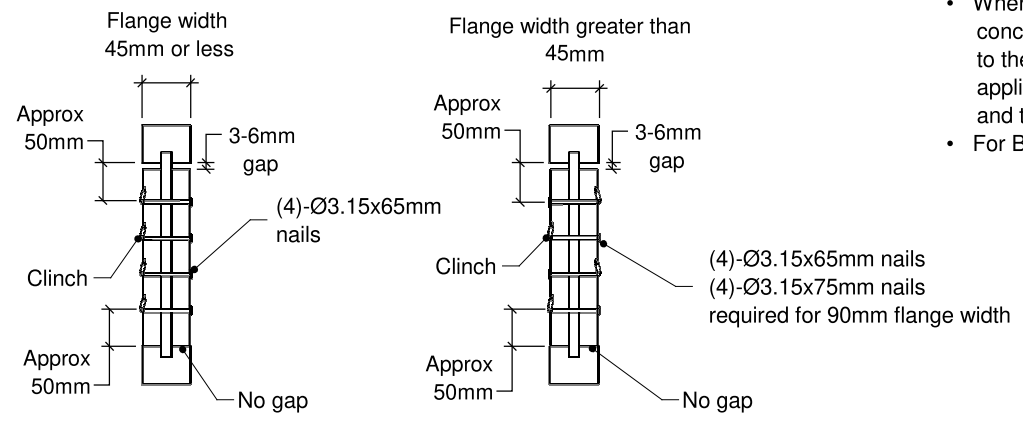

Figure 1
- 2. When used at end bearings, install web stiffeners tight against the bottom flange of the I-Joist. Leave a minimum 3-6mm gap between the top of the stiffener and the bottom of the top flange (see Figure 1).